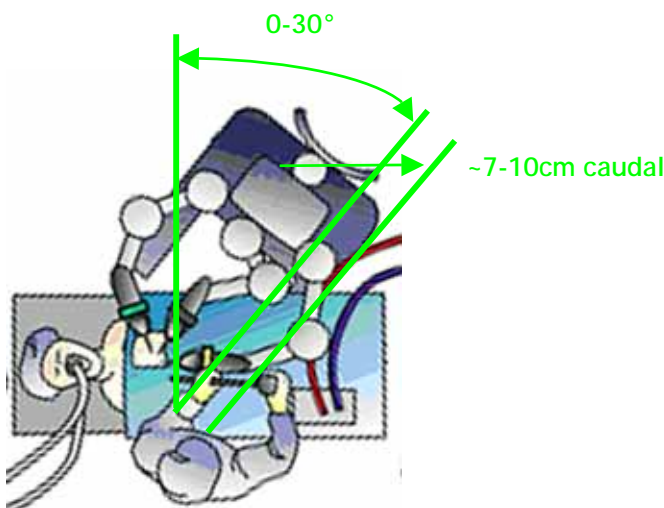

Figure 17: Patient Cart rolled in at a slight angle and offset towards the patient's feet to provide more space for the 4th instrument arm on the left side.
- The *da Vinci S* is rolled in at a 0-30° angle to accommodate for the natural position of the mitral valve in the chest (depending on patient's anatomy). The central column should be lined up ~7-10cm caudal of the camera port in the right chest to allow more space on the left for the *da Vinci* arms. [Figure 17]